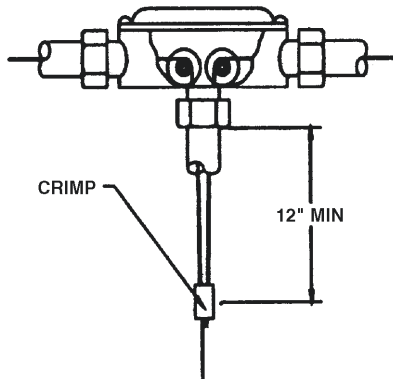

Figure 4-20. Tee Pulley Installation.
The Model TP-1 Tee Pulley is used to connect two (2) mechanical gas valves or two (2) remote mechanical pull stations to a single control head. The cable proceeding from the control head must always enter the branch of the tee pulley. See **Figure 4-20**.